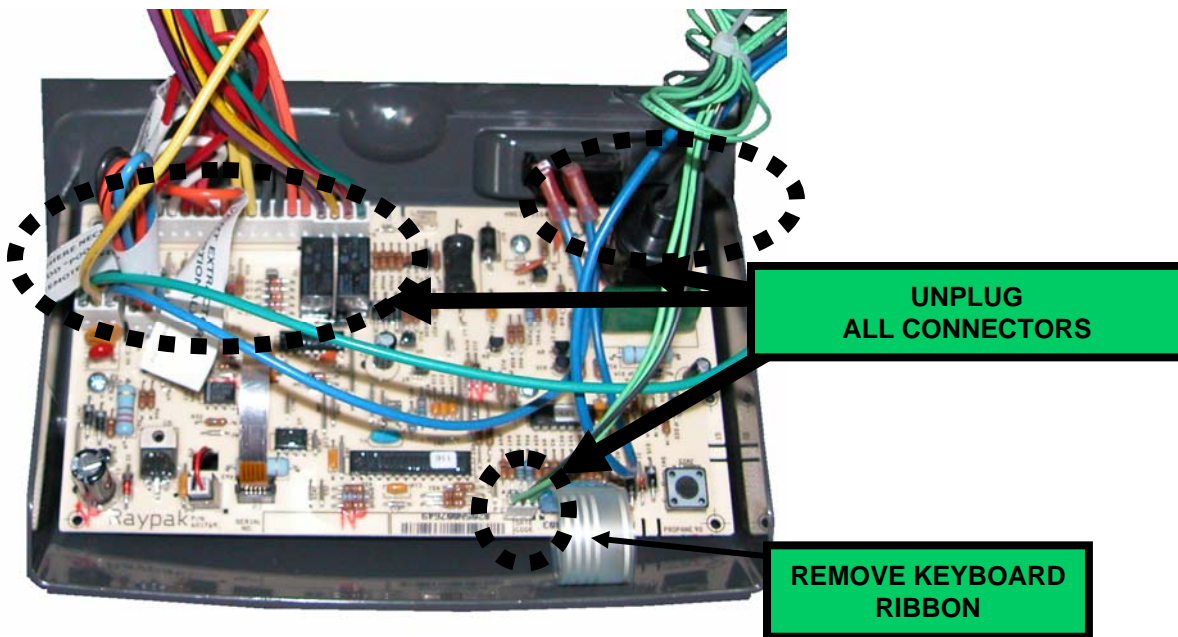

Fig. 9
1. Unplug all connectors from old circuit board. **Fig. 9.**